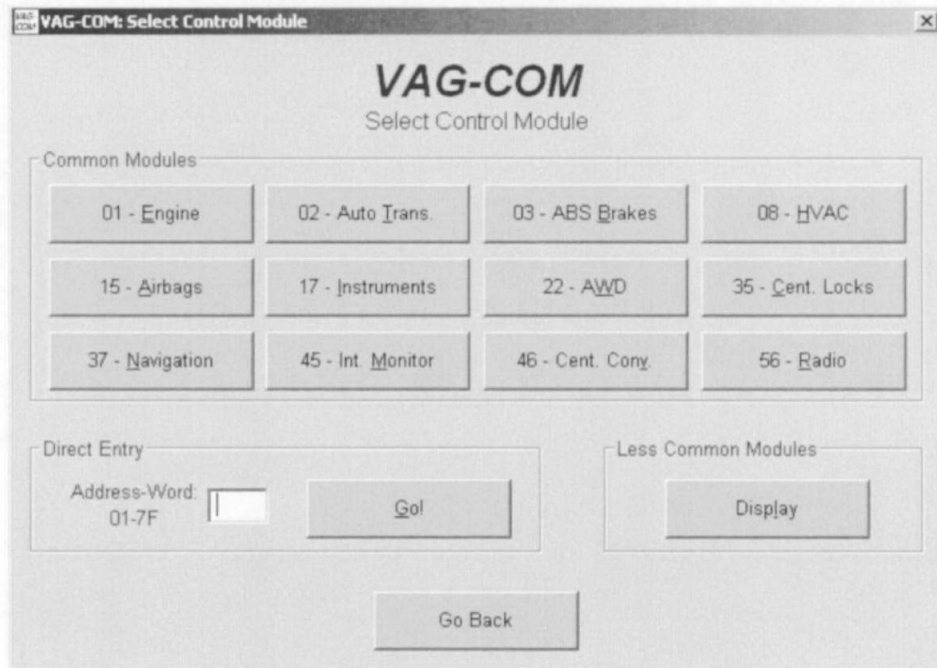

Fig 4 Select control module screen
2.12 From the main screen click on [Select] button to view the select control module screen (see Fig 4). Select the appropriate control module (eg Engine).